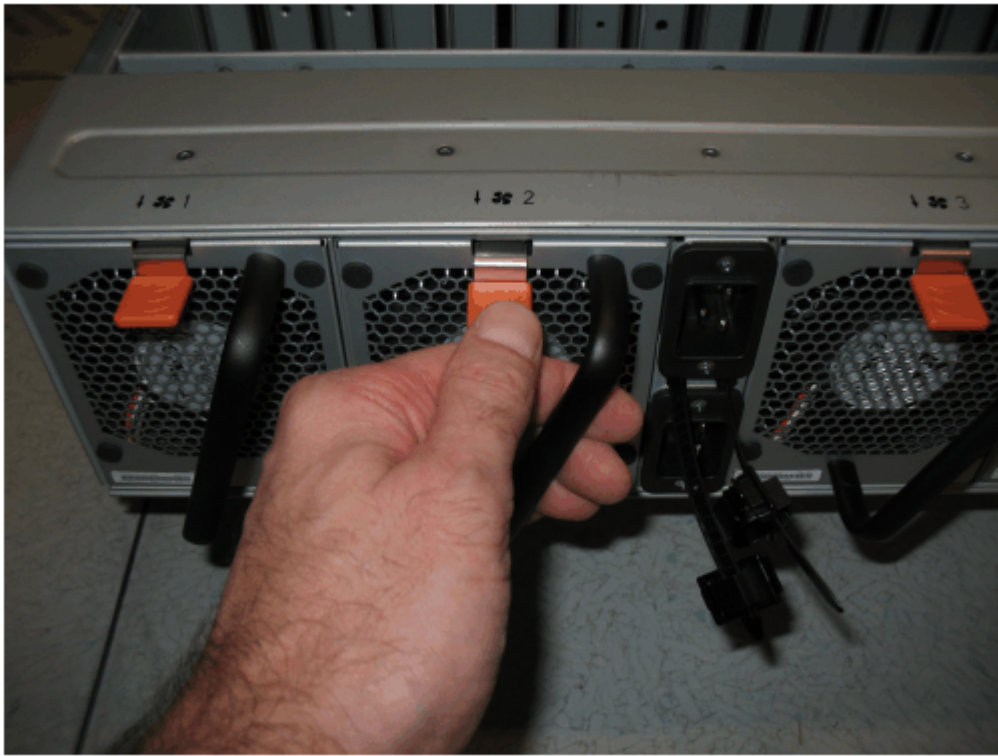

Figure 165. Fan module release tab
2. Press the release tab on the fan module, as Figure 165 on page 204 shows.